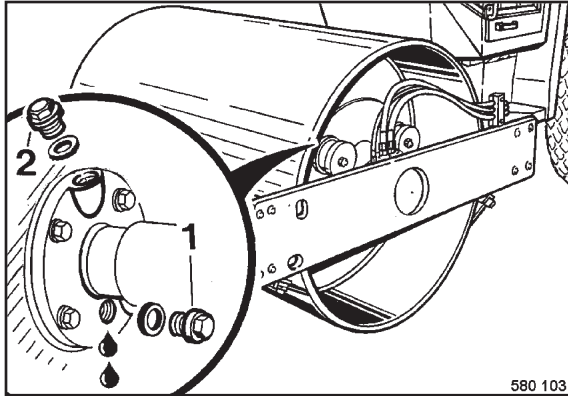

Fig. 113
- Drive the machine until the oil level control plug 1 (Fig. 113) is vertically below the hub.